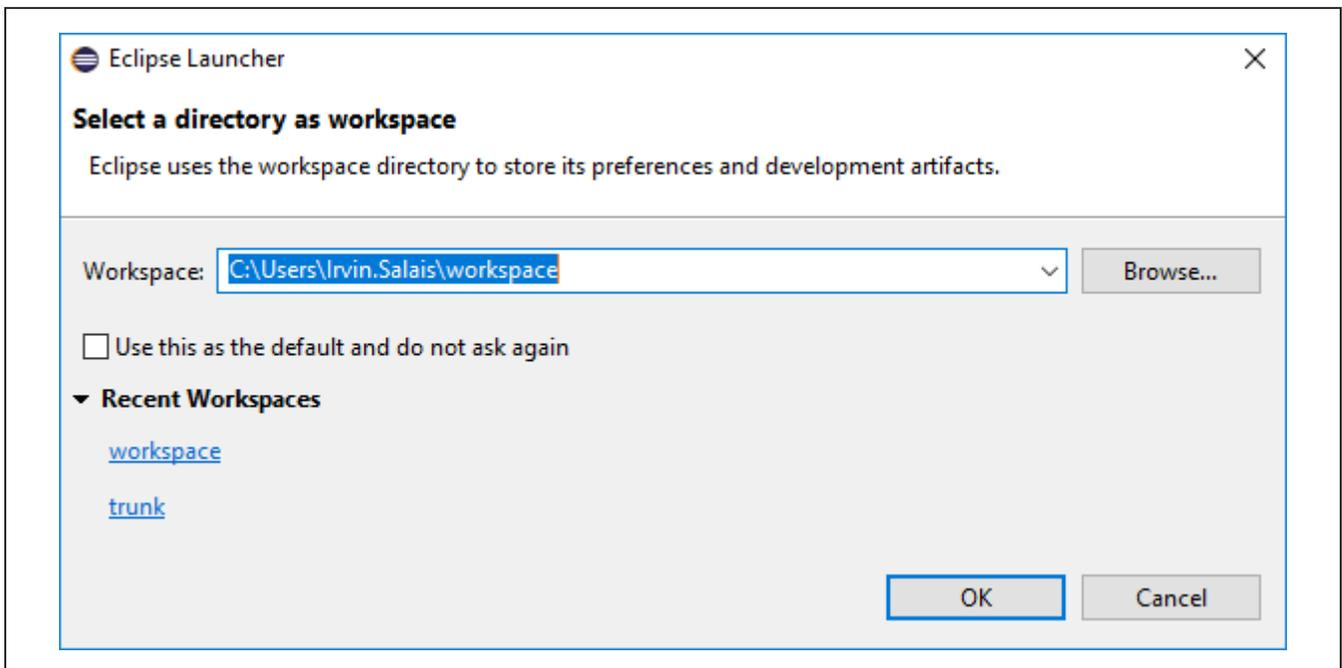

Figure 5. Eclipse workspace creation.
5) Create a workspace in a desired location (Figure 5).